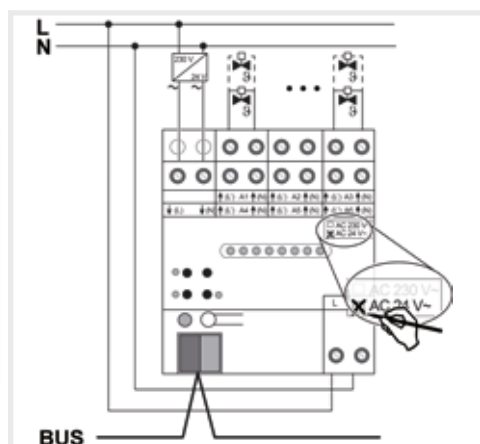

Figure 4: Connection of actuators 24 V
- Connect the AC 24 V valve drives according to the connection diagram (Figure 4).
- Connect the supply for the valve drives to the terminals $\downarrow$ (L) and $\downarrow$ (N) (1).
- Connecting the mains voltage to the terminals (5).